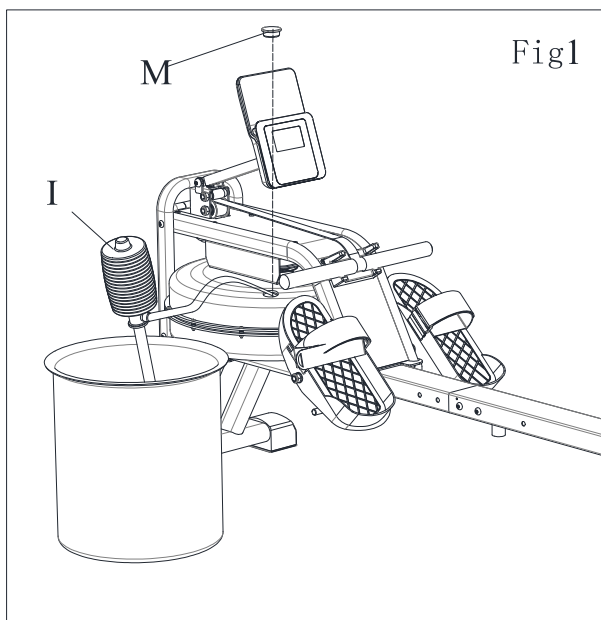

Fig1
- 1) Take the Stopper(M) out from the tank.
- 2) Inject water following Fig 1. Put the Pumping Pipe(I) in the tank, use the Pipe(I) to take water from the water bucket to the tank. Manage the quantity of water according to the tick marks on the side of the tank.